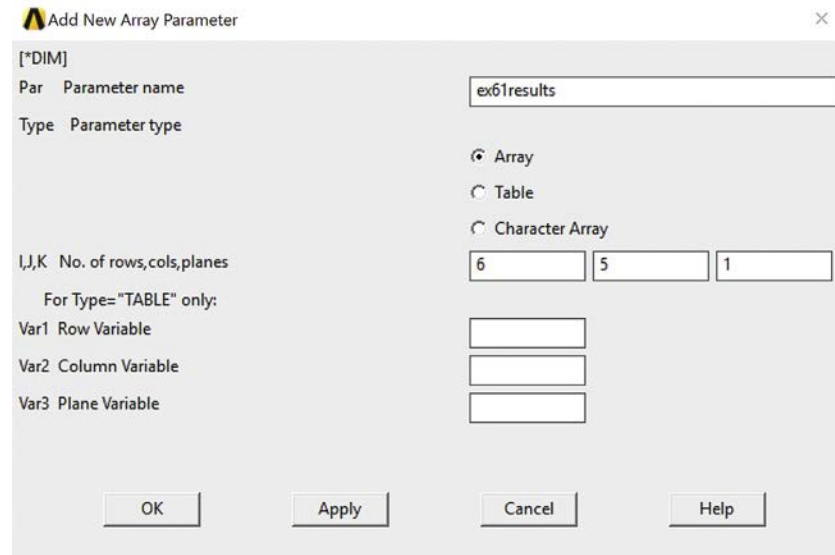

Figure 6-1-2 Array Parameter Dialog Box.
- Enter “ex61results” for the Par Parameter Name (Figure 6-1-2)